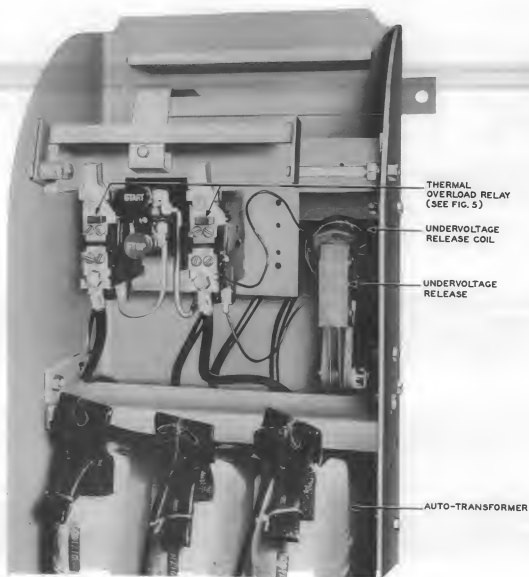

Fig. 3 - KS-5140-01 Manual-type AC Starter - Form B
3.19 To replace the autotransformer on the form E starter shown in Fig. 3, be sure the ac service is disconnected ahead of the starter. Remove the box cover. After noting their positions, disconnect the autotransformer leads from the contactor. Remove the screws, nuts, and washers used to fasten the top core support to the box and remove the support. As these autotransformers are heavy, it may be necessary to use suitable tackle to lift the autotransformer off the switch frame and autotransformer support and out of the box. Replace with a new transformer and reassemble in the reverse order. (See note in 3.21.)
3.22 To replace the undervoltage release coil on the undervoltage release shown in Fig. 3 and 4, disconnect the coil leads after noting their positions. Remove the armature hinge pin after removing a cotter pin and remove the armature, thus permitting access to the coil. Remove the pole shaver and the insulation washer and slide the coil off the magnet core. Replace with a new coil and reassemble in the reverse order. The undervoltage release coil is identified by the catalogue number stamped on the coil.